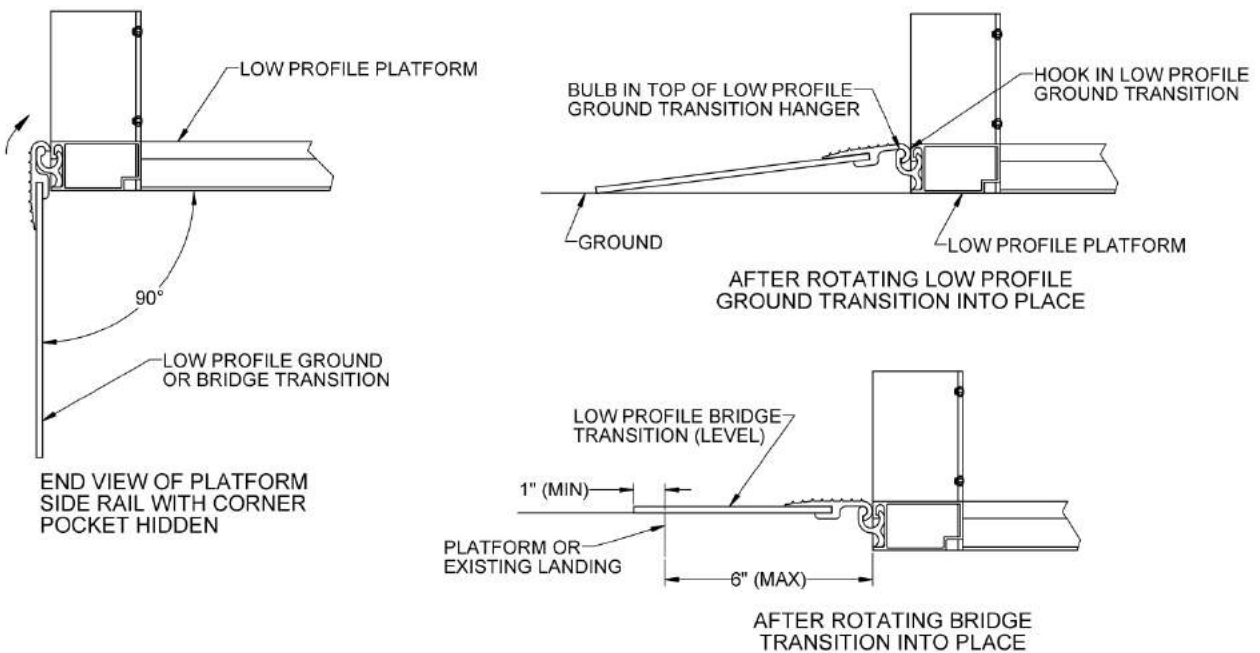

FIG. 2.16
2.6.11.5. Set the low profile platform on its side in such a manner that the low profile ground transition hanger extends up from the ground and the low profile ground transition or bridge transition can be held at approximately 90° to the platform as shown (FIG. 2.16).
2.6.11.6. Rotate the low profile ground or bridge transition until hook in transition is captured between the bulb in the top of the low profile ground transition hanger and the platform side rail and the ground or bridge transition is parallel with the platform (FIGs. 2.16 and 2.17).